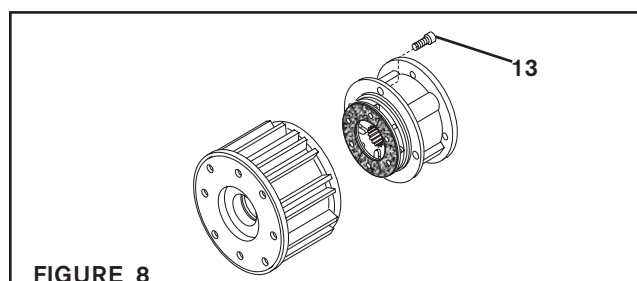

FIGURE 8
1. Remove the four Socket Head Cap Screws (Item 13) and separate the two halves of the FMCBE (See Figure 8).
- Apply a drop of Loctite® 242 to the threads of the four Socket Head Cap Screws (Item 13) (See Figure 8).